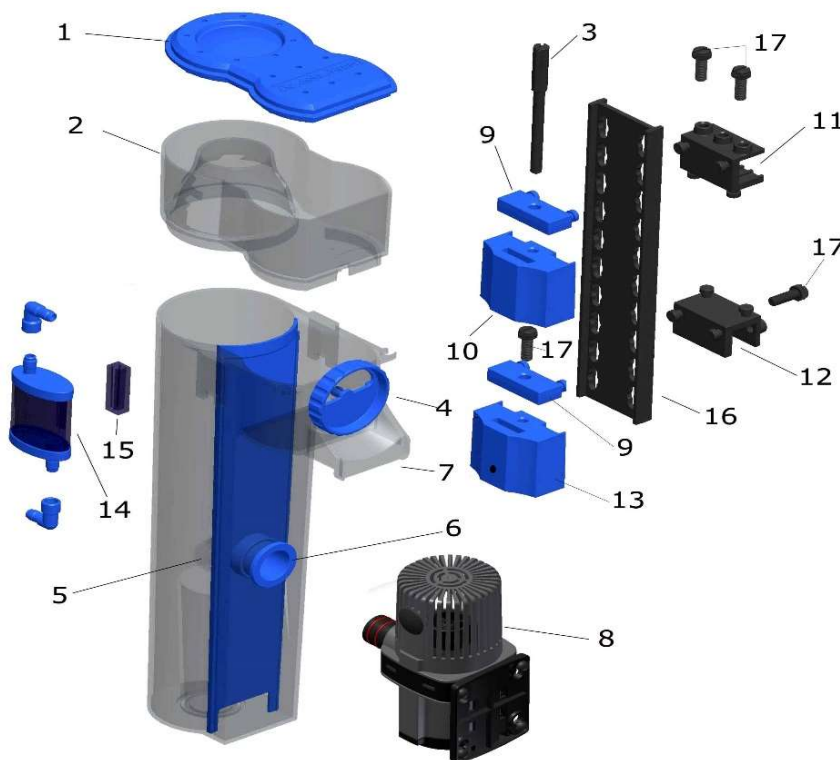
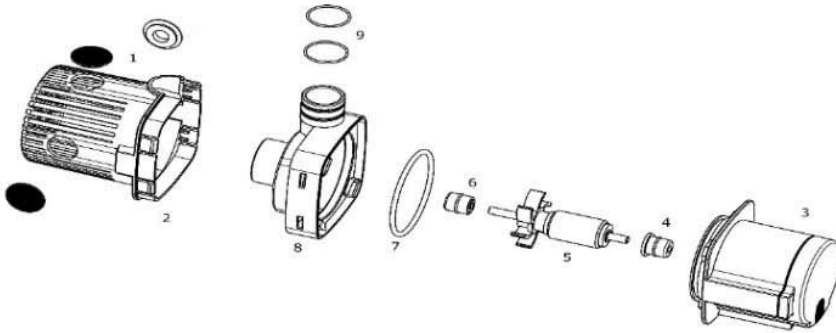

Fig. 1: EVO 501
Fig. 2: DC Runner 800
The pump DC Runner 800 is operated by an electronic safety transformer at AC 110 – 240 V / 50 – 60 Hz and 24 V DC output. Power consumption of the pump is max. 7 watts, protection rating is IP X8. To open the pump, release the pump lock (Fig. 2, No. 8) by turning it. **The pump must be mounted with the suction side upwards (see Fig. 1), otherwise the pump may stop.**
The venturi pump draws water out of the aquarium or filter chamber, mixes it with air in the pump housing which is then cut into small air bubbles by the needle wheel (Fig. 2, No. 5). This water/air mixture is then pumped into the reaction pipe where organic substances are taken up by air bubbles. Foam is formed and pushed into the foam cup. The purified water leaves the skimmer via outlet and is directed back to the aquarium or filter sump by the discharge (Fig. 1, No. 7).
First of all, the skimmer has to be put together according to Fig. 1. It can easily be mounted at the aquarium pane or a glass support by using the holding unit. The best place for mounting is either at the side or back – well accessible but protected. The pump is put into the connecting piece (6) of the skimmer, the cable points downwards and the air hose upwards to connect to the silencer (14). The sound absorber can be attached to the foam cup (2) or an aquarium pane by using the holding unit (15). To do so, take off the protective plastic film from the tape. The adhesive surface must be clean and free of grease.
By using the mounting profile (11), the retaining plate (7) can be fastened to a bar or vertical pane. Further down, a second profile (12) can be mounted as a spacer. The distance can be adjusted by using the screws (12a) so that the retaining plate hangs down vertically. On the opposite side of the mounting profile, the connecting piece (9) for the adjustment screw and holding plate are mounted. To do so, the adjustment screw (8) has to be put through the hole (9a) of the screw holder, then it has to be screwed in the thread (10) of the holding unit. This can be moved up and down by turning the screw (8). The skimmer is hung up by putting the laterally mounted holding bracket into the slot (10b) of the holding unit. In order that the skimmer hangs straight, a second holding unit with rubber feet (no picture) will be fixed as a spacer at the bottom of the retaining plate. The skimmer is adjusted in such a way that the discharge is above water level. Especially in freshly set up aquaria, skimmers can rarely be regulated in such a way that constant foam production occurs. This is only done when the aquarium is filled. To prevent overflowing of the foam cup uncontrollably, the skimmer must not be immersed too deeply in the water (water level 1 - 2 cm below the discharge [Fig. 1, No. 7]).